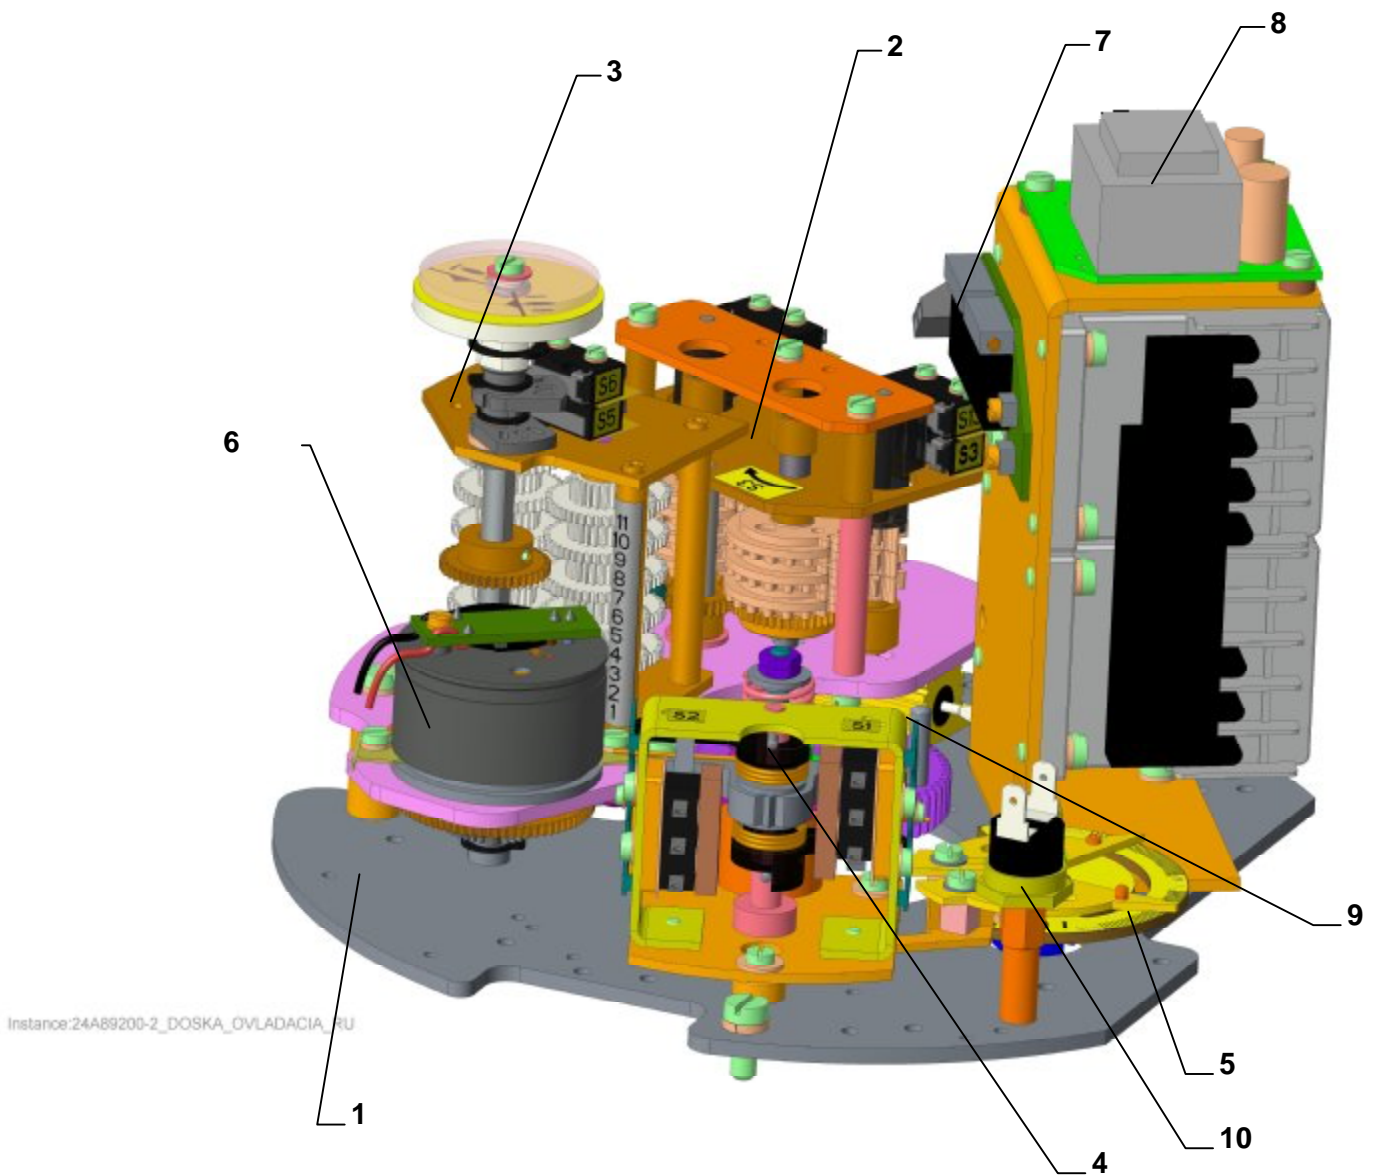

Fig. 3 – MO 3-Ex – MO 3.5-Ex
The bottom part of control box closes the box of force transmission and forms carrying part of control plate (1) (Fig.3,-3c).
- position unit (2) (Fig.3,3a,3c).
- signalling unit with gear unit and with position indicator (3) (obr.3,3a,3c)
- torque unit (4) (Fig.3,3a,3c) with torque disk (5) (obr.3,3a,3c)
- transmitter unit (6) with electronic position transmitter (7) active (8) (according to EA specification) (Fig. 3,3a, 3c)
- heating resistor (9) with thermal switch (10) (Fig. 3,3a, 3c)
Position unit (2, Fig. 3,3a,3c)
Signalling unit with gear unit and with position indicator (3, Fig. 3,3a,3c)
Transmitter unit (6, (Fig. 3,3a, 3c) with electronic position transmitter (7) active (8) (according to EA specification)
Heating resistor with thermal switch (9,10, Fig. 3,3a,3c)
The EA is equipped with a space heater (9) with an external thermal switch (10) (Fig. 3,3a,3c) with a total output according to ch. 2.2. to prevent the condensation of water vapor and for the correct function of the built-in electric control parts of the ES in case of low working temperatures of the EA.